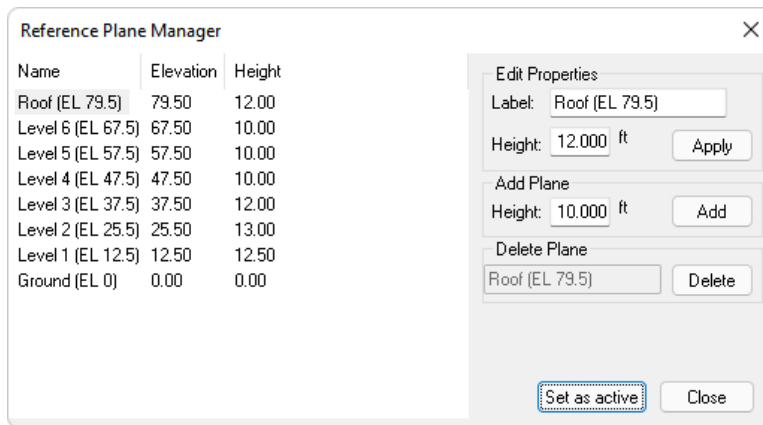

FIGURE 2-6
- Continue adding levels, assigning the levels their names and heights, until you have all the levels shown in **FIGURE 2-6**.